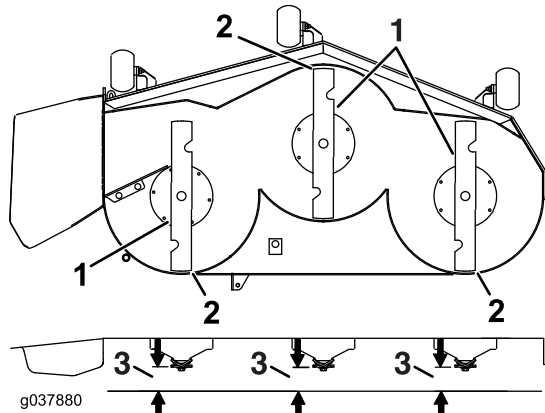

Figure 107
- Check the front-to-rear blade level (Figure 107). Ensure the front blade tip is lower than the rear blade tip as shown in the block height and rake table. If adjustment is needed, continue with this procedure.